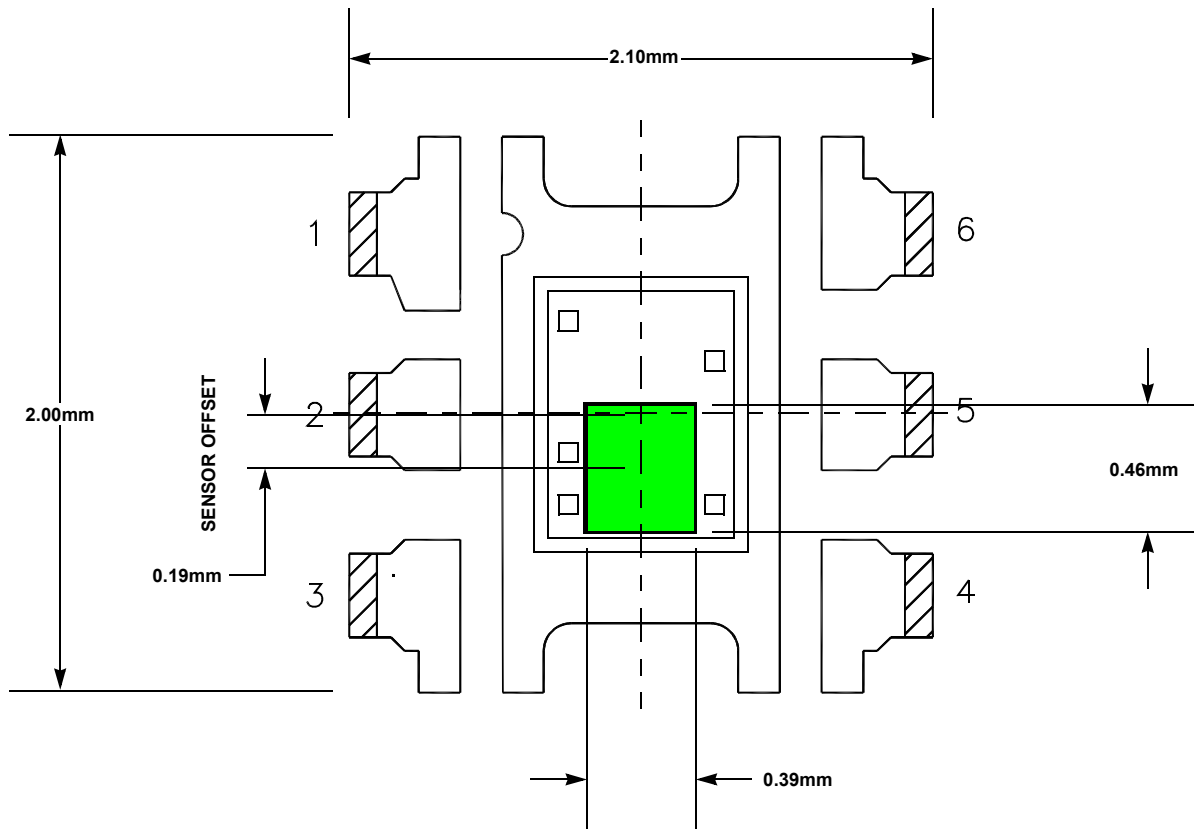

FIGURE 19. 6 LD ODFN SENSOR LOCATION OUTLINE
The green area in Figure 19 shows the optical sensor location outline of ISL29102. Along the pinout direction, the center line (CL) of the sensor coincides with that of the packaging. The sensor width in this direction is 0.39mm. Perpendicular to the pinout direction, the CL of the sensor has an 0.19mm offset from the CL of packaging away from pin 1. The sensor width in this direction is 0.46mm.